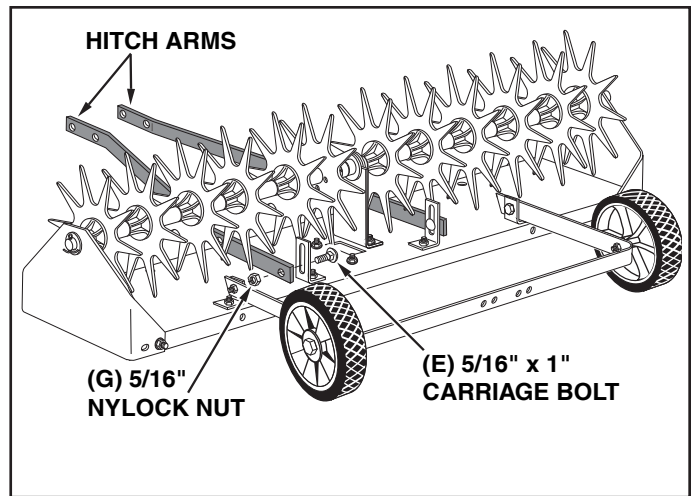

FIGURE 10
17. Assemble the hitch arms to the **outside** of the hitch arm mount brackets. Use two 5/16" x 1" carriage bolts (E) and 5/16" nylock nuts (G). **Do not tighten yet**. See figure 10.